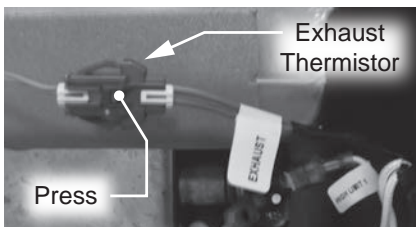

Figure 143 - Disconnecting exhaust thermistor
- 32** Locate and disconnect the exhaust thermistor wire harness at the secondary heat exchanger. See Figure 143.